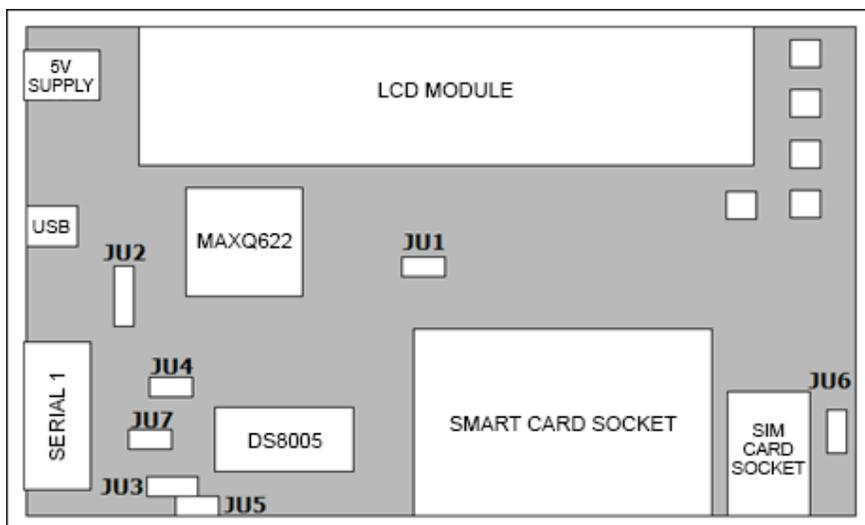

Figure 2. The location of all the jumpers on the DS8005 evaluation kit.
**Table 1** shows all the jumpers and includes a description of what each setting does. Settings highlighted in blue indicate the default settings. See **Figure 2** for jumper locations.